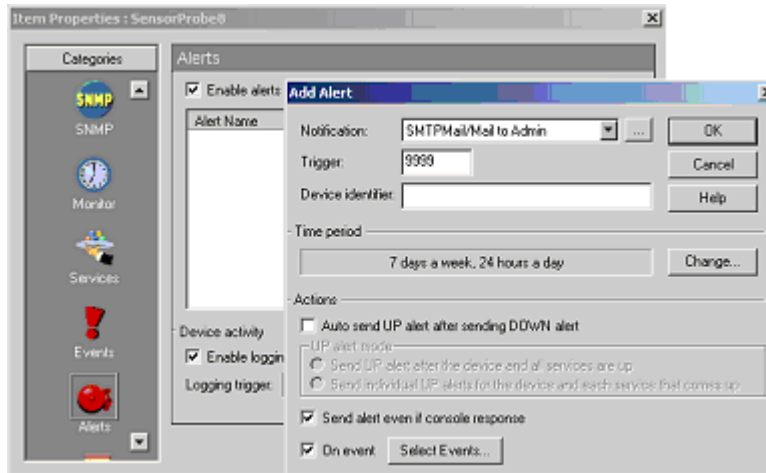

Figure 13 Add Alerts dialog box
- 5.3. Press Add button to open Add Alerts dialog box shown in Figure 13.